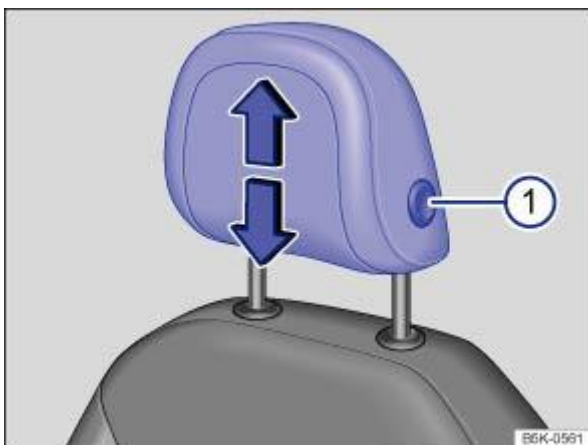
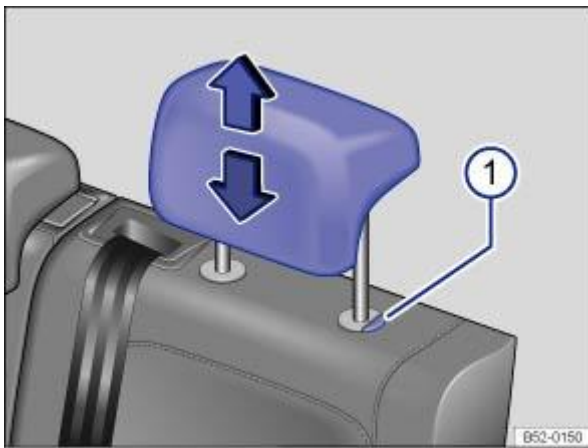

Fig. 72 Front head restraint: adjusting.
Fig. 73 Rear head restraint: adjusting.
Press the button ⇒ Fig. 72 ① or ⇒ Fig. 73 ① if necessary and slide the head restraint up or down in the direction of the arrow ⇒ ⚠ .